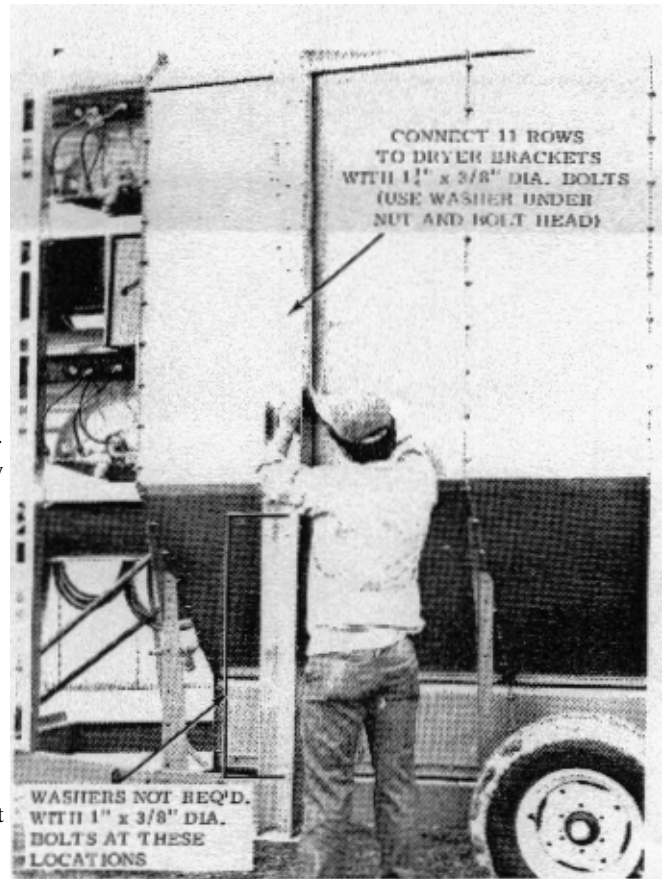

FIG. 6 . CONNECTING UPPER BUTTRESS COLUMNS
3. Assemble the right and left-hand top buttress columns and loosely connect them onto the dryer as shown in Fig. 6.